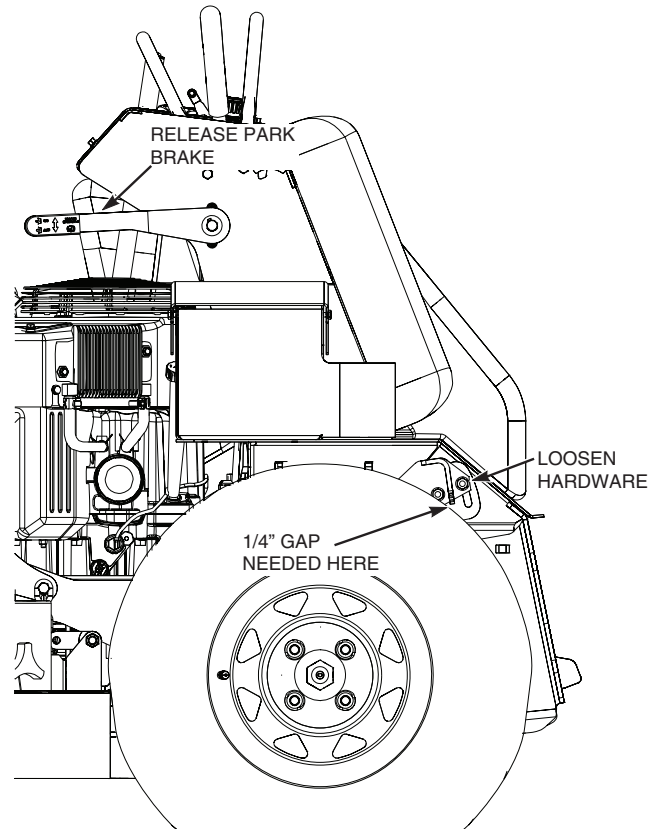

Figure 6-1. Brake Adjustment
3. Look for a gap (approximately 1/4") between the left side drive tire and the brake weldment. See Figure 6-1. Loosen the hardware securing the brake weldment to the brake actuator shaft weldment. Adjust the brake weldment until there is a 1/4" gap between the tire and brake weldment. Tighten the hardware